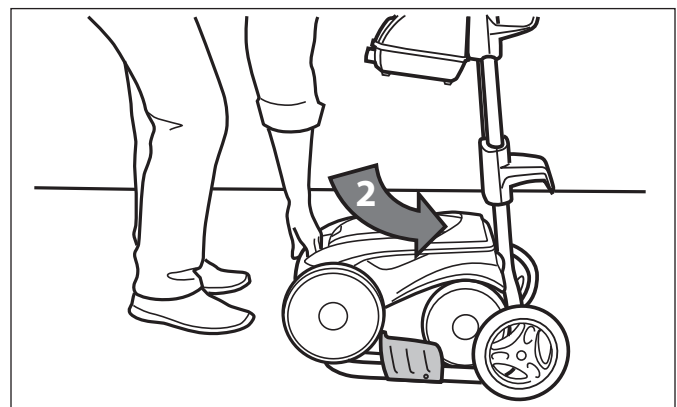

Figure 27. Roll Cleaner onto Place on the Caddy
2. Roll the unit into place onto the caddy. Refer to Figure 27.